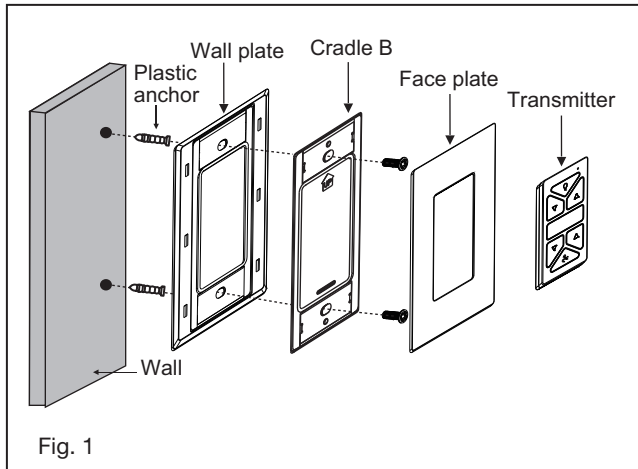

Fig. 1
- 1 Remove ball from downrod by loosening set screw in the side of the ball. Slide ball down and remove ball pin; remove ball. (Fig. 1)
- 1 Insert the receiver into the ceiling mounting bracket with the flat side of the receiver facing the ceiling. (Fig. 1) For best performance, make sure the Black Antenna, on the end of the receiver, remains extended and not tangled with any of the electrical wires.
- 1 Remove one of the three screws on the mounting hub located on the fan motor. Loosen the other 2 screws. (Do not remove) (Fig. 1)
- 1 Select a desired location. Use the wall plate to mark the location of the mounting holes. Plastic wall anchors or mounting screws are needed for this application. (Fig. 1)
Remove the panel from the transmitter and then install one 2032 battery (included). You need to use a coin to open or close the battery cover. To prevent damage to transmitter, remove the battery if not use for long periods of time (Fig. 1)